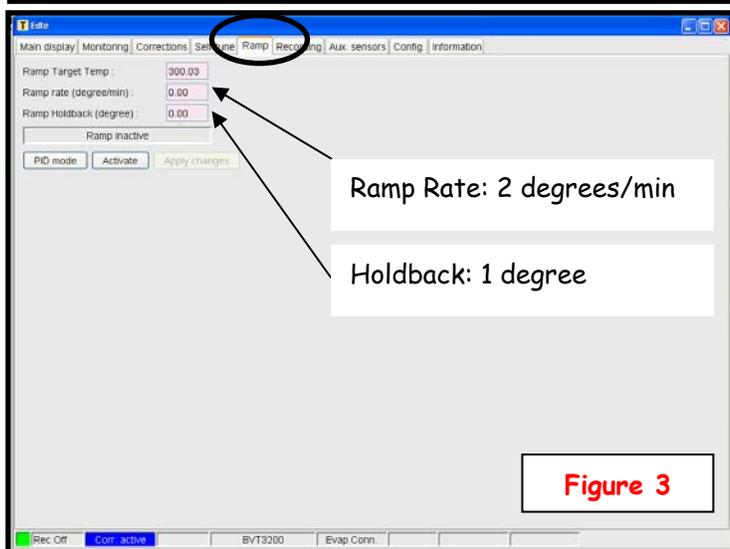

Figure 3
- (6) Click the "Ramp" tab to show an interface like that in **Figure 3**. First click the Activate button to enable temperature ramping. Then set the ramp rate to 2 degrees/minute and the ramp holdback to 1 degree.
- (7) Return to the "Main display" tab and ensure the Probe heater is on (turn it on if it happens to be off). In the edte "Target temp" section, click on the Change... button. Enter the highest temperature you plan on studying (remember to stay 10 degrees below your solvent's boiling point).
- (8) Optional: Click on the "Monitoring" tab in edte to monitor the temperature increase. In this window, the left y-axis is temperature and the right is heater power. At equilibrium, the heater power fluctuations (red line) should be less than 0.1%.
- (9) Optional: When the desired temperature has been reached, perform a "self-tune" which is described in **Appendix 1**.
- (10) Optional: If you require your real NMR sample temperature to be adjusted to this temperature, use the batman program and follow the procedure in **Appendix 2b**.
- (11) Wait ~10 minutes for your sample to reach thermal equilibrium and re-shim and re-tune the probe. Acquire your NMR experiment(s).
- (12) Optional: If you want to know your actual sample temperature, follow the calibration procedure in **Appendix 2a** (assuming you did not perform batman in step 10).
- (6) Click the "Ramp" tab and click "PID mode" to turn off the temperature ramp (see **Figure 3**).
- (7) If you performed one or more self-tunes, you must read in the standard temperature control parameters for the day-to-day operating temperature of 300 K. In edte, click on the "Config." tab and at the bottom in the "Miscellaneous" section; click the "Load configuration ..." button. A list of configuration files should now be present; select the file bbfo\_300K\_400lh.tcf and click Open to load the controller parameters. Note that if you did not self-tune, this step may be skipped.
- (8) Before Finishing: check that the probe heater is on, the gas flow is 400 l/h, and the temperature is set to 300 K.